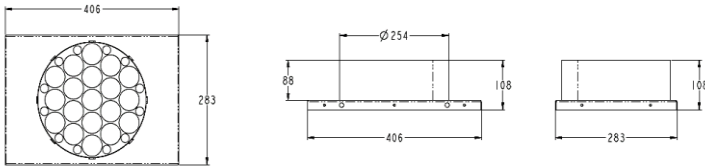

Fig. 1 – Square-to-Round Dimensional Detail
**NOTE:** This kit will provide the necessary transition panel and hardware to adapt the unit rectangular opening to a standard 10" round duct connection. Please see detailed dimensions in Fig. 1 for actual collar dimensions.